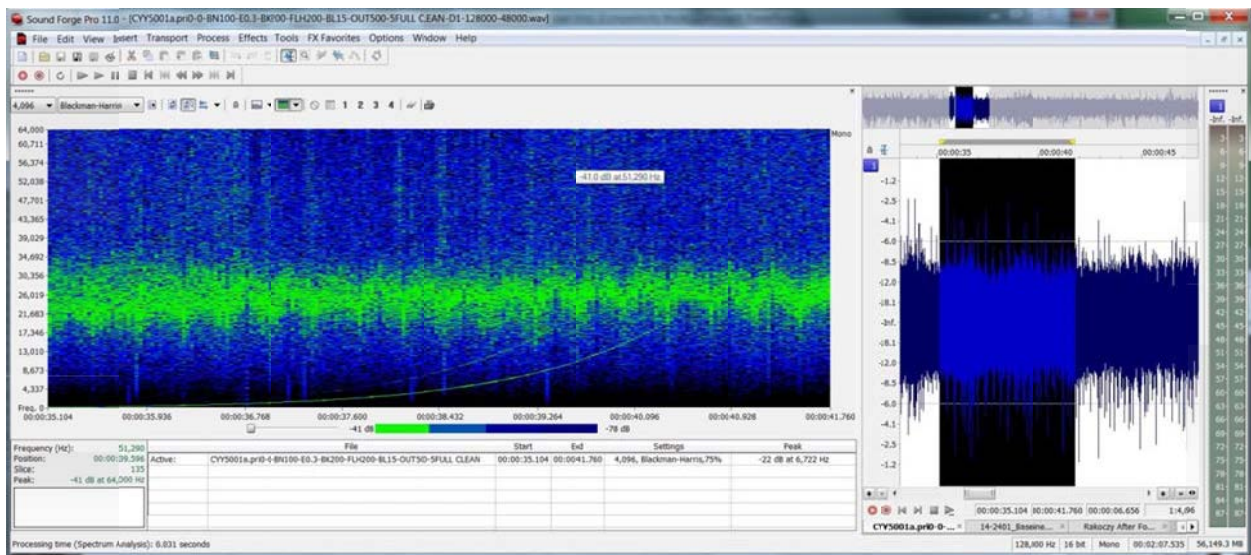

Figure 3: Spectrogram of frequency sweep. Broad feature is the tool vibration is persists everywhere., Note swept tone and over tone up to at least 18 KHz,
- In the case of the sweep, we can see the tone up to 18 KHz (Figure 3)